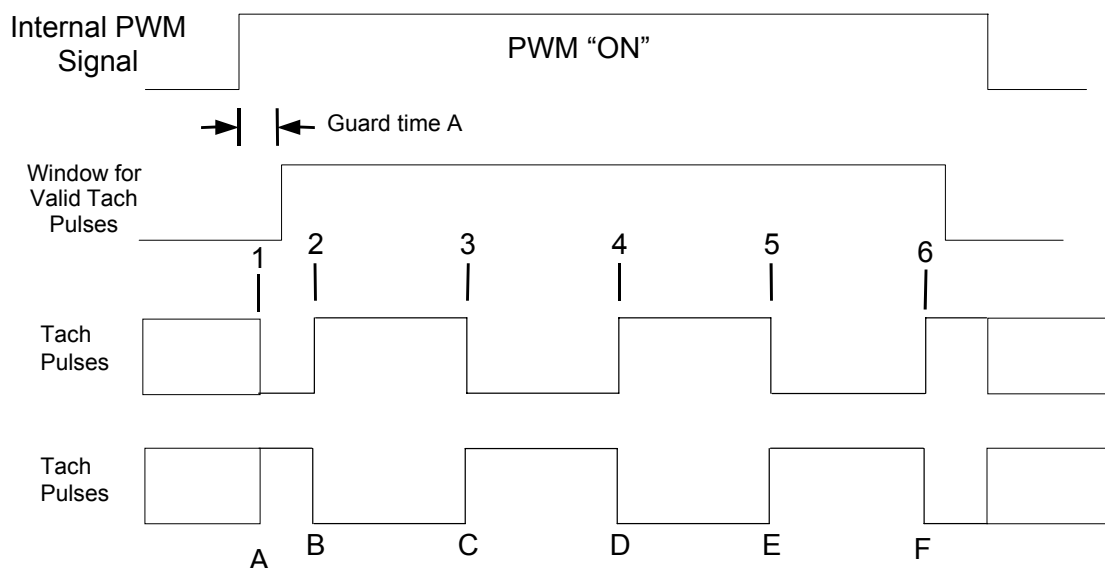

Figure 7.5 PWM and Tachometer Concept
7.1.4.4.2 ASSUMPTIONS (REFER TO FIGURE 7.5, "PWM AND TACHOMETER CONCEPT"):
The Tachometer pulse generates 5 transitions per fan revolution (i.e., two fan tachometer periods per revolution, edges 2→6). One half of a revolution (one tachometer period) is equivalent to three edges (2→4 or 3→5). One quarter of a revolution (one-half tachometer period) is equivalent to two edges. To obtain the fan speed, count the number of 90KHz pulses that occurs between 2 edges i.e., 2→3, between 3 edges i.e., 2→4, or between 5 edges, i.e. 2→6 (the case of 9 edges is not shown). The time from 1-2 occurs through the guard time and is not to be used. For the discussion below, an edge is a high-to-low or low-to-high transition (edges are numbered – refer to Figure 7.5, "PWM and Tachometer Concept").
- 2, 3, 5 or 9 “edges” to calculate the fan speed (Figure 7.5)
- Guard time A is programmable (8-63 clocks) to account for delays in the system (Figure 7.5)